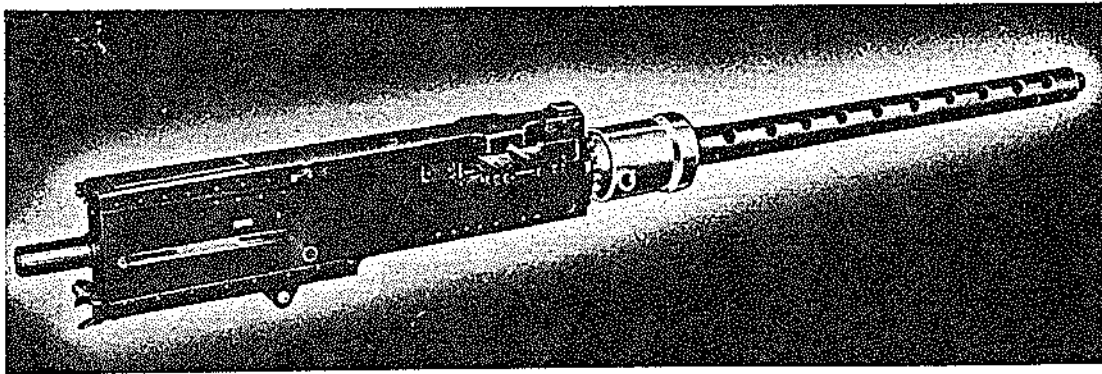
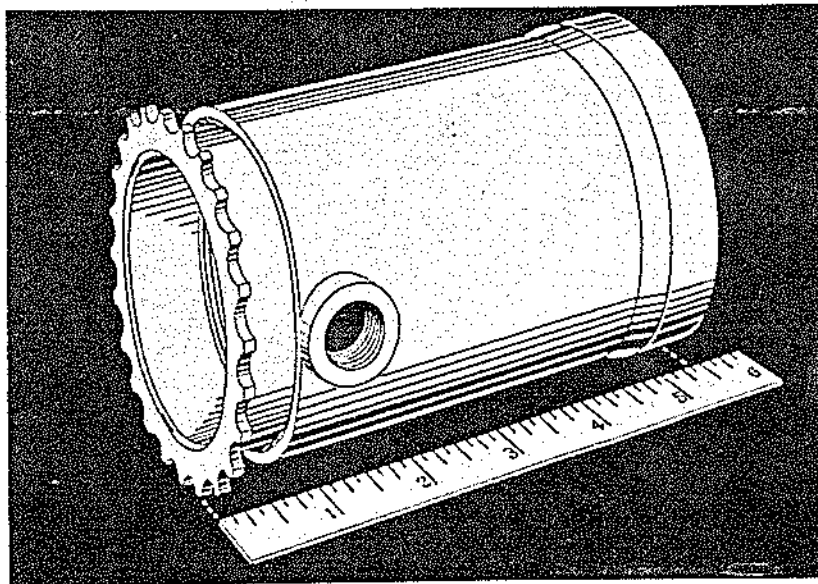

Figure 60.—Gun Mount Adapter AN-E-10 (Mk 15, Annular) with Caliber .50 BAM Gun
Figure 61.—The Gun Mount Adapter AN-E-10 (Mk 15) Alone
98. The Gun Mount Adapter AN-E-10 (Mk 15), shown in Fig. 60 and Fig. 61, is a self-contained cylindrical assembly. It is mounted over the barrel jacket and fastened to the trunnion block of a caliber .50 BAM gun. Its function is to absorb recoil and counterrecoil shock and to provide the forward support for the gun. It is used in turret installations in which the mounting means is provided by the airplane manufacturer. It weighs 5.25 lb., and its over-all dimensions are 5.375 in. x 3.625 in. when in battery or neutral position.